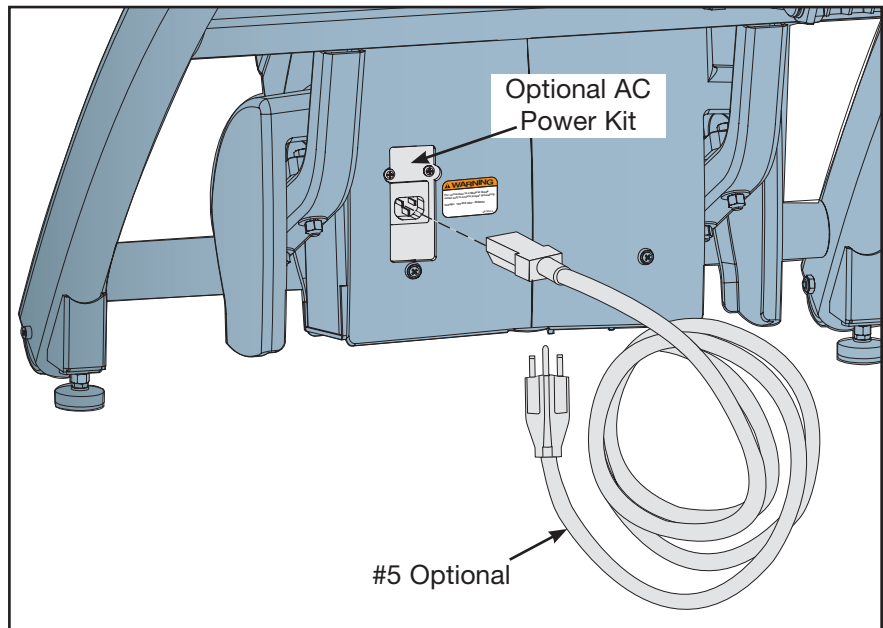

Figure 16
- A. Plug the optional power cord (#5) into the inlet. **NOTE:** Do not plug the power cord into an outlet at this time. See Figure 16.